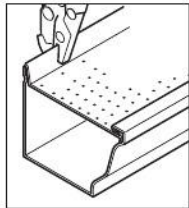

Fig. 4
5. Using an end-cap crimping tool, pinch the back of the Gutter Warrior™ and the gutter every 3' feet to stabilize them. (Fig. 4)